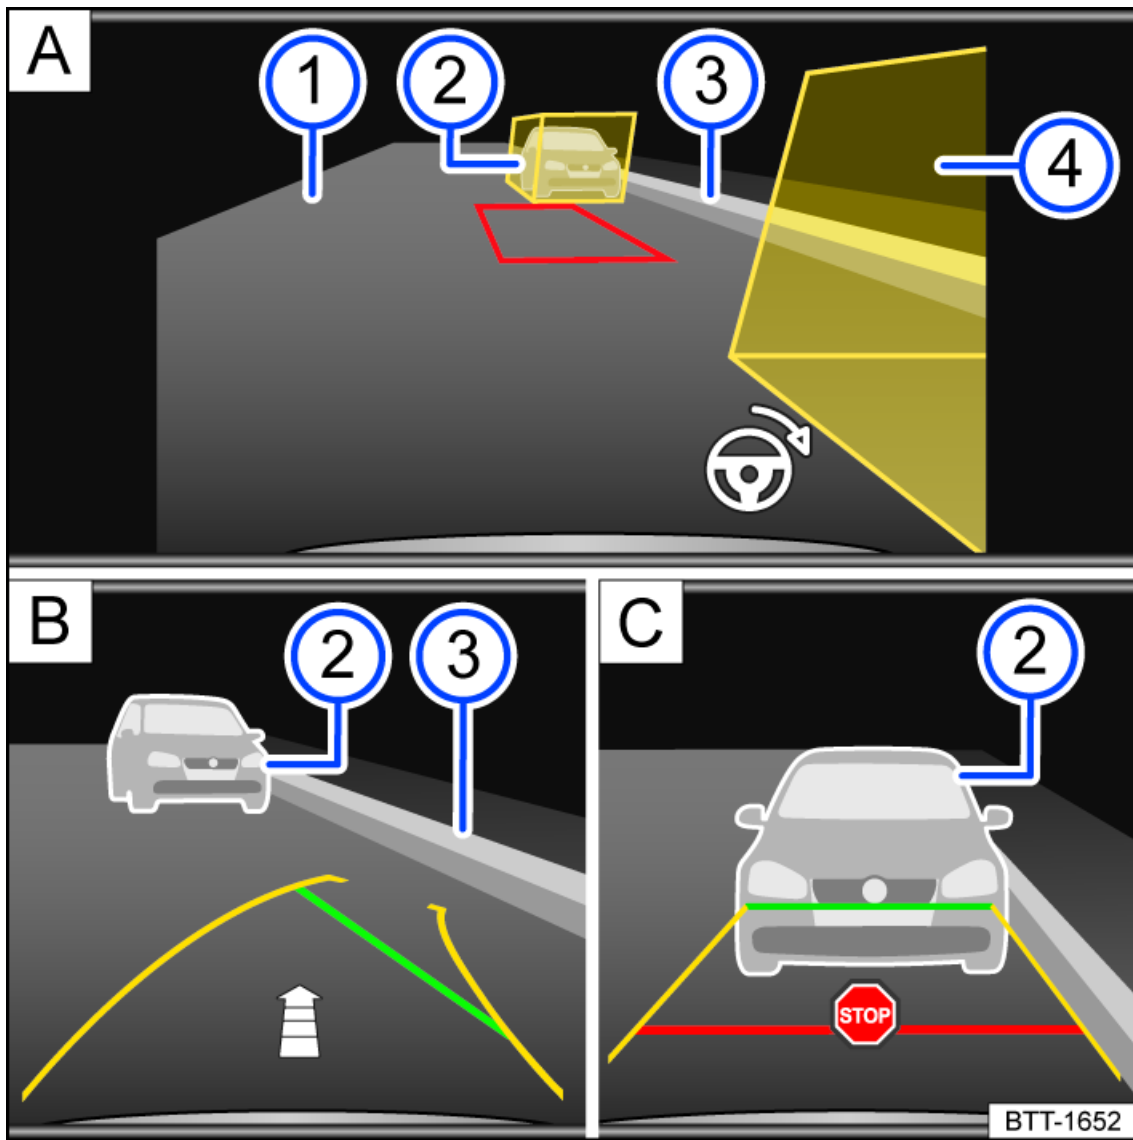

Fig. 153 Infotainment system: Parking parallel to the road.
- ① Road surface.
- ② Obstacle or assisting box.
- ③ Side boundary of the parking space.
- ④ Obstacle or assisting box.
4. Position the vehicle at a distance of approx. 1 m (approx. 3 ft) parallel to the parking row. The yellow assisting boxes must cover the obstacles fig. 153 A ② or ④. The area in between must be free of obstacles.
5. Select the reverse gear. A red frame represents the target position of your vehicle fig. 153 A.
6. Turn the steering wheel until the red frame moves between the assisting boxes and becomes green fig. 153 A. Hold the steering wheel in this position while driving in reverse.
7. Drive slowly in reverse until the  stop symbol appears or the green line aligns with the side boundary of the parking space *fig. 153* . An *fig. 153*  arrow indicates the remaining distance to be driven based on the number of displayed segments.